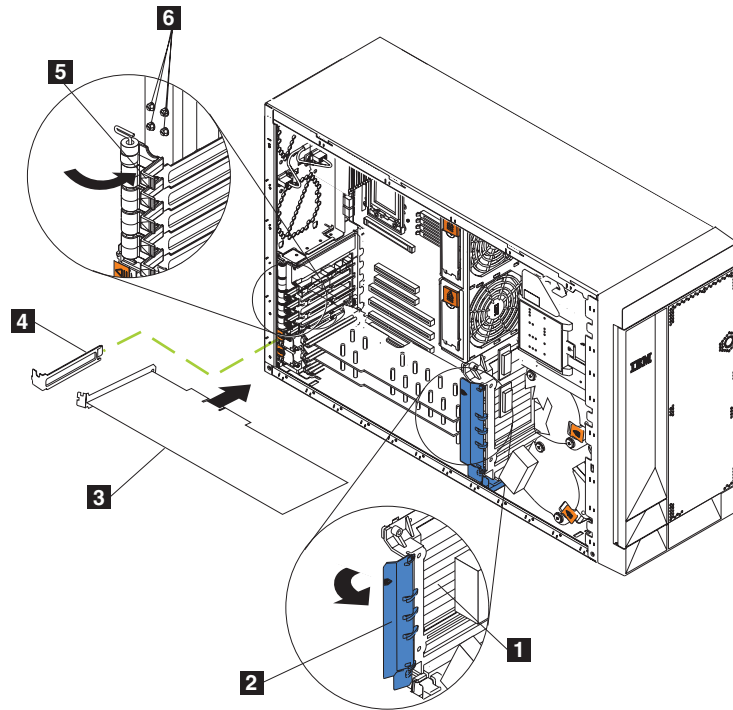
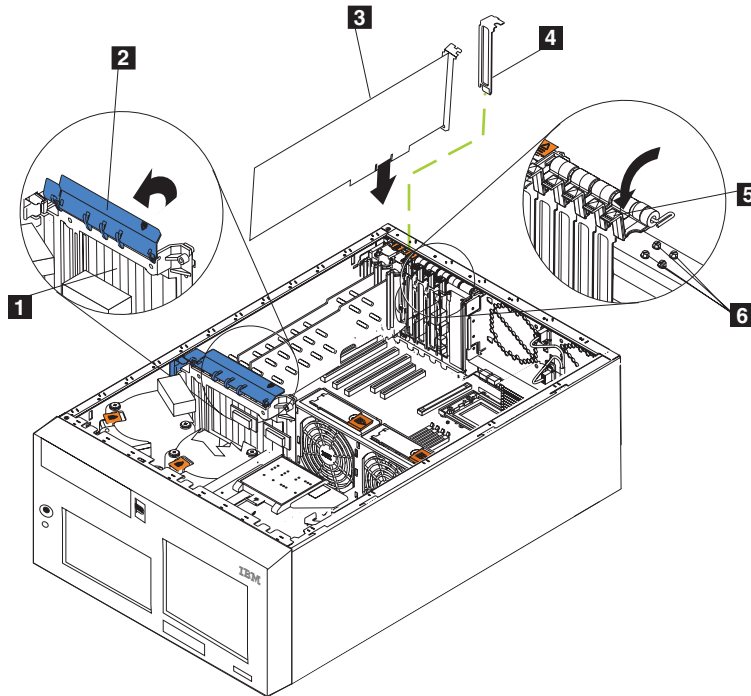
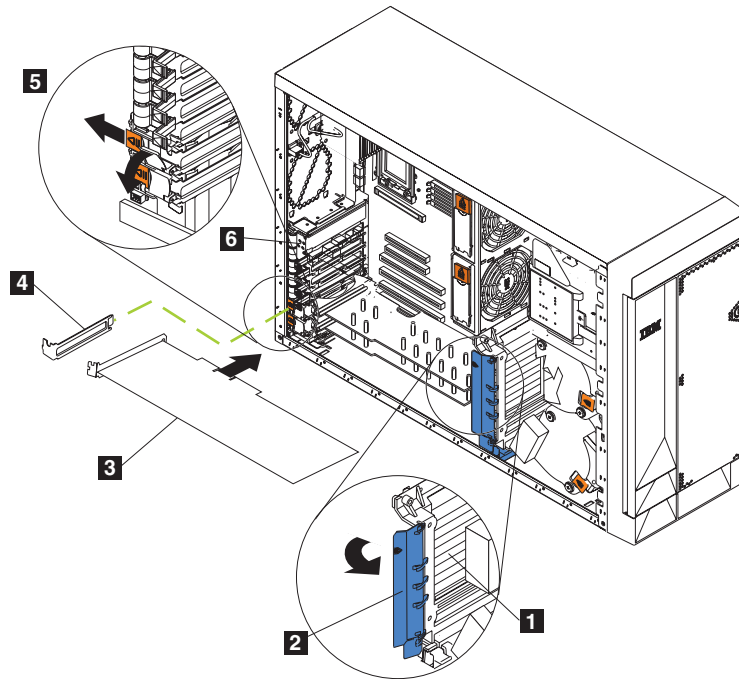
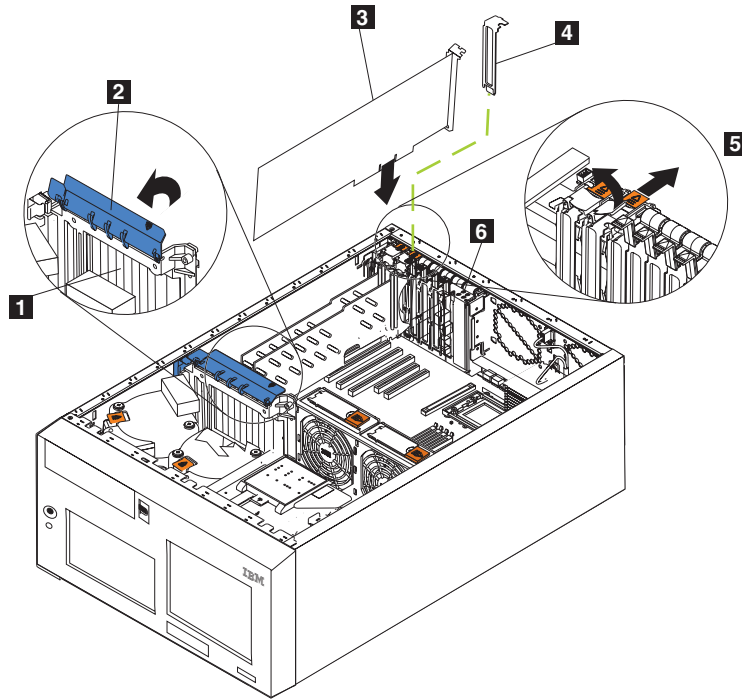

Figure 42. Installing an adapter (Model 25T)
Figure 43. Installing an adapter (Model 25T with the rack-mount conversion feature)
Figure 44. Installing an adapter into slots 5 or 6 (Model 25T)
Figure 45. Installing an adapter into slots 5 or 6 (Model 25T with the rack-mount conversion feature)
5. Lift the adapter-retention clip on top of the adapter-support bracket and the adapter-retention latch from each full-length adapter; then, remove the full-length adapters. (See Figure 42 on page 105 and Figure 43 on page 106 for the location of the adapter-retention clip.)
Figure 42 and Figure 43 on page 106 show how to install a PCI adapter.
If you are installing an adapter in PCI-X slot 5 or 6, slide the orange adapter-retention-latch release toward the rear of the engine and hold it there while you lift the black adapter-retention latch to the unlocked (open) position, as shown in Figure 44 and Figure 45 on page 108
- d. Secure an adapter in slots 1-4 with a screw: insert one of the backup expansion-slot screws (see Figure 44 on page 107 and Figure 43 on page 106 for the location of the screws) through the top of the adapter bracket into the screw hole to secure the adapter.